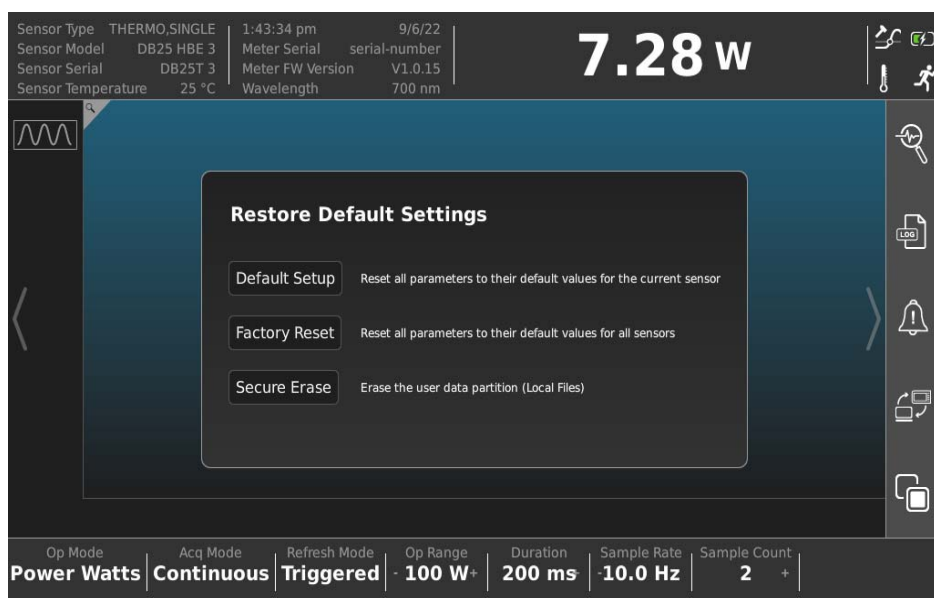

Figure 4-46. Firmware Update Settings
2. In the Restore Default Settings dialog, press the button for the needed reset type. Refer to Figure 4-46. The reset is immediate, without confirmation.